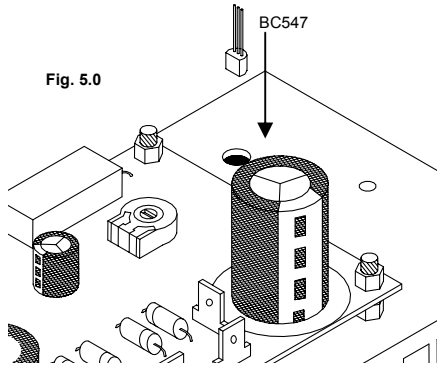
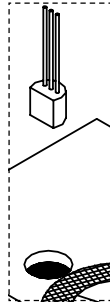

Fig. 5.0
Fig. 6.0
- Insert the transistor (BC547) in the hole (Fig. 5.0). Pay attention to the position of the transistor (fig 6.0)!